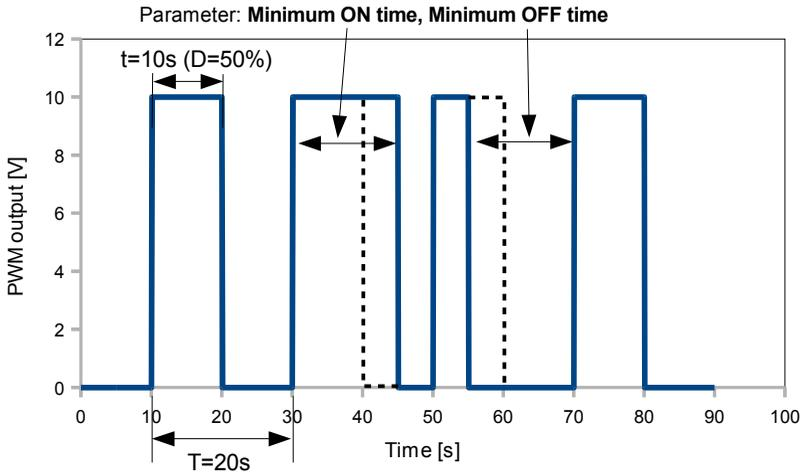

Fig. 7.90. Sample of output signal of OC-type relay in PULSE mode
- **Minimum ON time** - minimum duration of a high state (after switching to a high state, switching back is possible after **Minimum ON time**), see **Fig. 7.90**,
- **Minimum OFF time** - minimum duration of a low state (after switching to a low state, switching back is possible after **Minimum OFF time**), see **Fig. 7.90**,